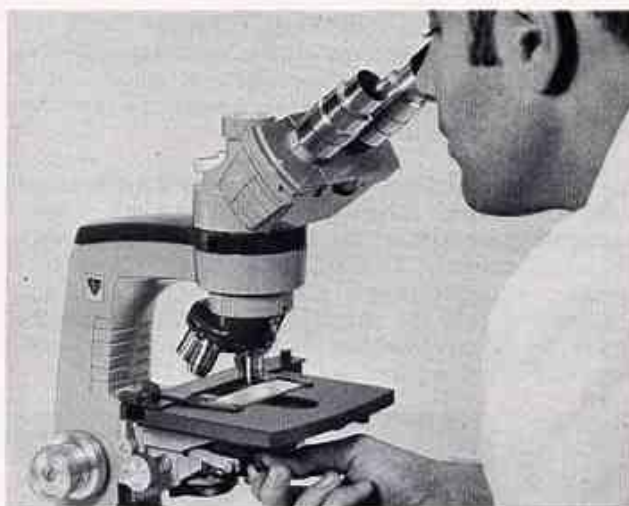

Figure 36. Setting the Aperture Diaphragm
10. Remove an eyepiece and view the back aperture of the objective as shown in figure 36. Close the condenser aperture diaphragm... Then re-open until the iris diaphragm leaves "just" disappear from view to obtain the full resolving power of the microscope. If desired, the condenser aperture diaphragm may be closed as required, depending upon the specimen, to enhance contrast and depth of focus.